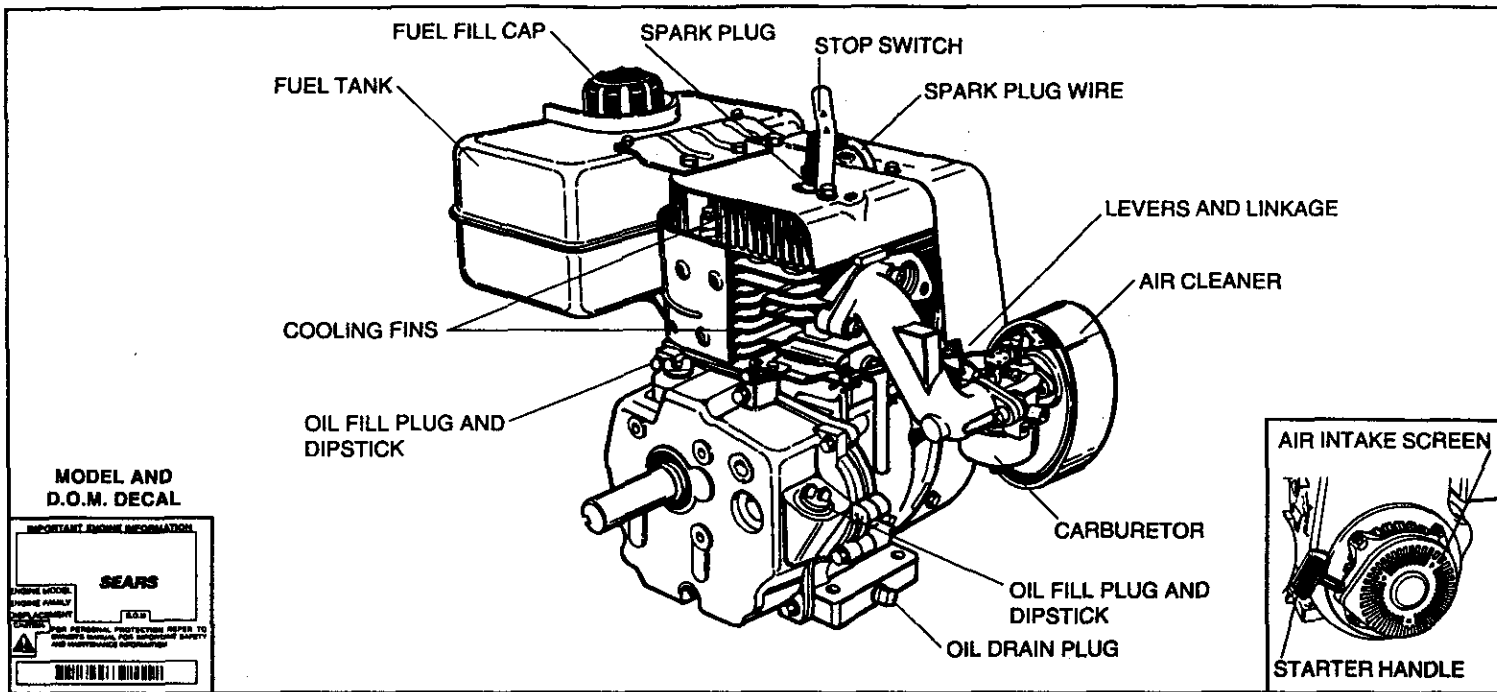

Figure 1
B. Clean area around oil fill plug (see Figure 1).
B. Be sure spark plug wire is attached to spark plug (see Figure 1).
C. Be sure stop switch (see Figure 1) next to spark plug is not contacting spark plug.
- ① Move equipment control or any ignition stop switch on engine to STOP or OFF (see equipment manufacturer's instructions).
- ② Push stop switch (see Figure 1) located next to spark plug on engine against spark plug and hold it in this position until engine is completely stopped.
③ AFTER ENGINE IS STOPPED:
- Position equipment so engine oil drain plug is lowest point on engine (see Figure 1).